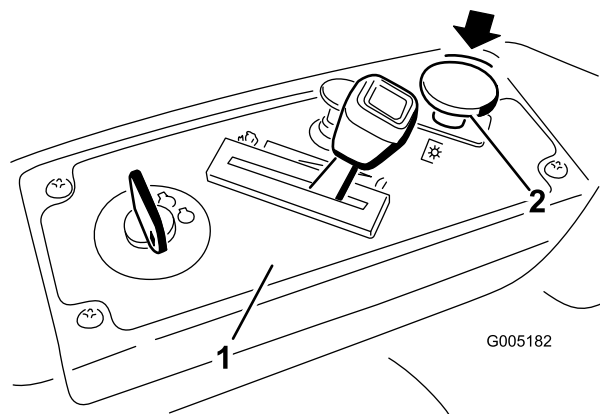

Figure 15
Push down on the blade control switch to move it to the Off position and disengage the blades (Figure 15).
1. Disengage the blades by moving the blade control switch to Off (Figure 15).
2. Move the throttle lever to between Fast and half throttle (Figure 15).